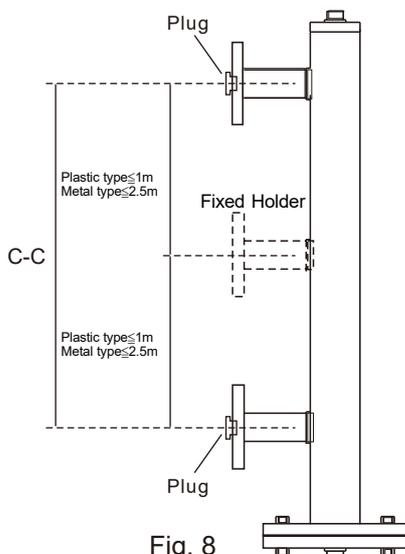

Fig. 8
11. C-C length (plastic type >1.5m; metal type >3.5m), fix support is recommended. The distance between fix support/ flanges shall be within 1 m (plastic type); 2.5 m (metal type). It depends on the application to have different fix support, FineTek provide customized service as fig. 8 showed.
12. Dust-proof plug on the flanges should be removed before installation, as Fig. 8 showed.